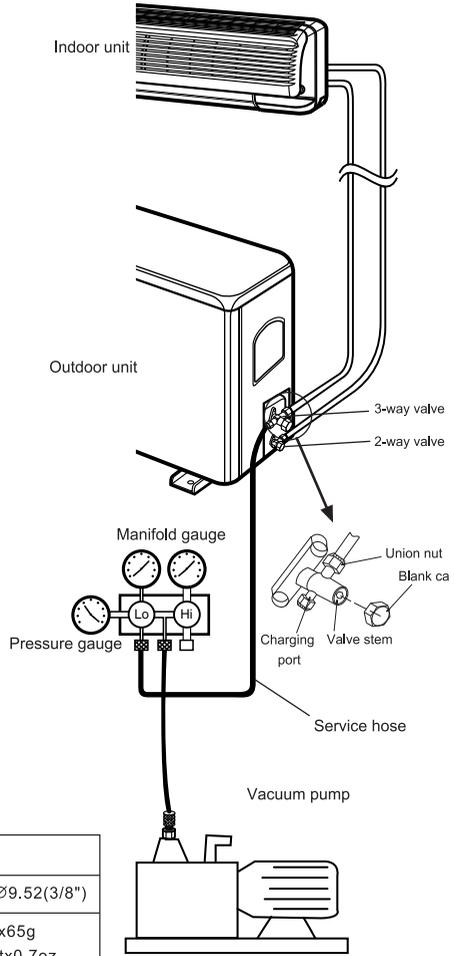

Fig.6
1. Check that pipeline connections have been properly connected, remove the charging port cap, and connect the manifold gauge and the vacuum pump to the charging valve by service hoses as shown in Fig. 6.